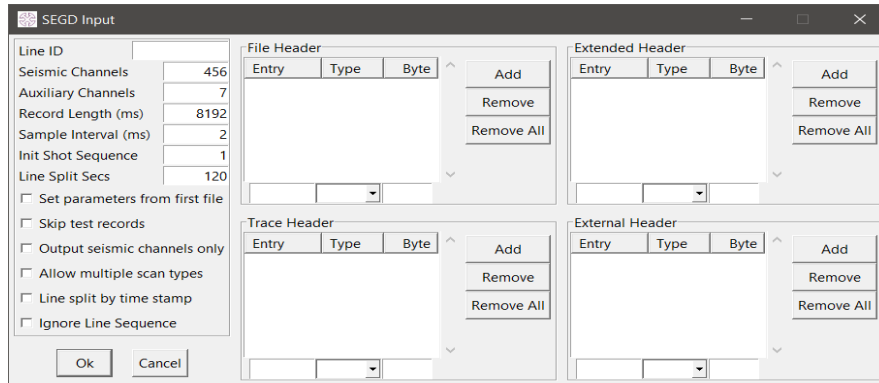

Figure 4-2 SEGD Input Parameter window
2. After selecting the desired Encapsulation an appropriate format window (Figure 4-2 on the next page) will open. Parameters will be automatically entered following the auto analyse. SEG-D is used in this example - please refer to Appendix A: Formats and Parameter – sega,b,c,d,y for all formats and parameter description. Click OK.